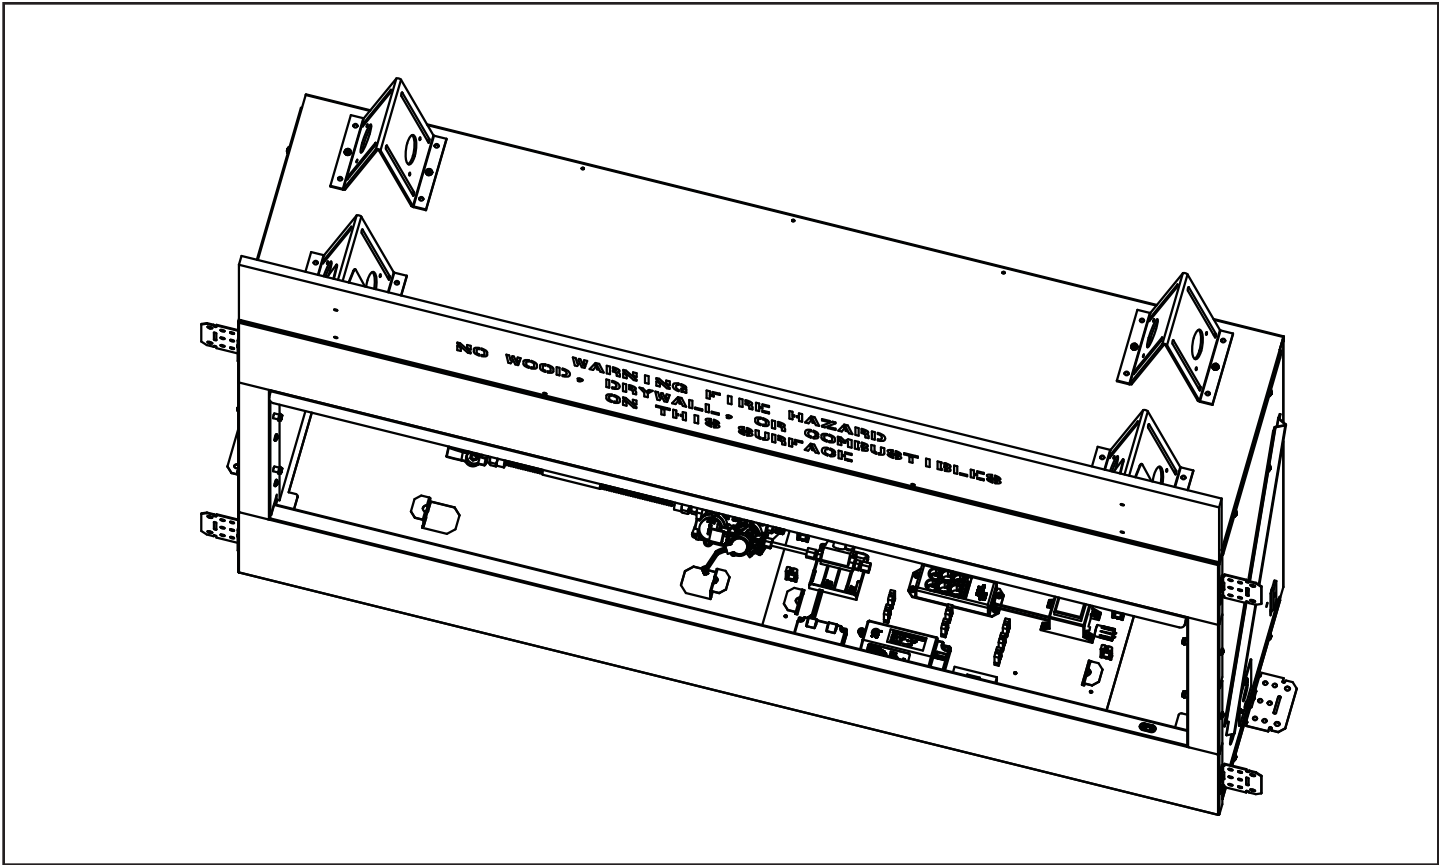

Figure 5.2 - Valve Access
**NOTE:** This appliance does include a manual gas shutoff valve that is located in the valve compartment. This manual gas shutoff valve is accessible for service by lifting the engine assembly. See Figure 5.2. The valve is most accessible if it is located forward in the control cavity of the appliance.